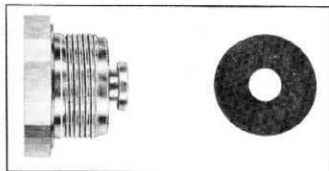

Fig. 27—Valve Seat and End Plug Relation
2. Remove the valve seat washer from the button on the end plug (fig. 27).